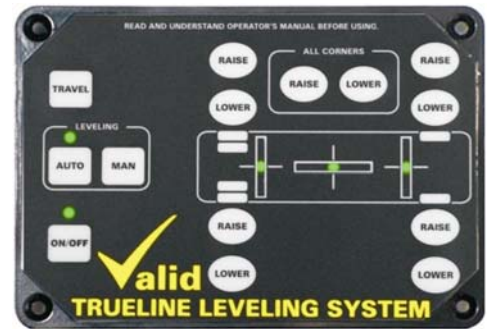

Fig 3
3. After the three cycles are complete, the vehicle should be level and all three level displays should be green (Fig 3).